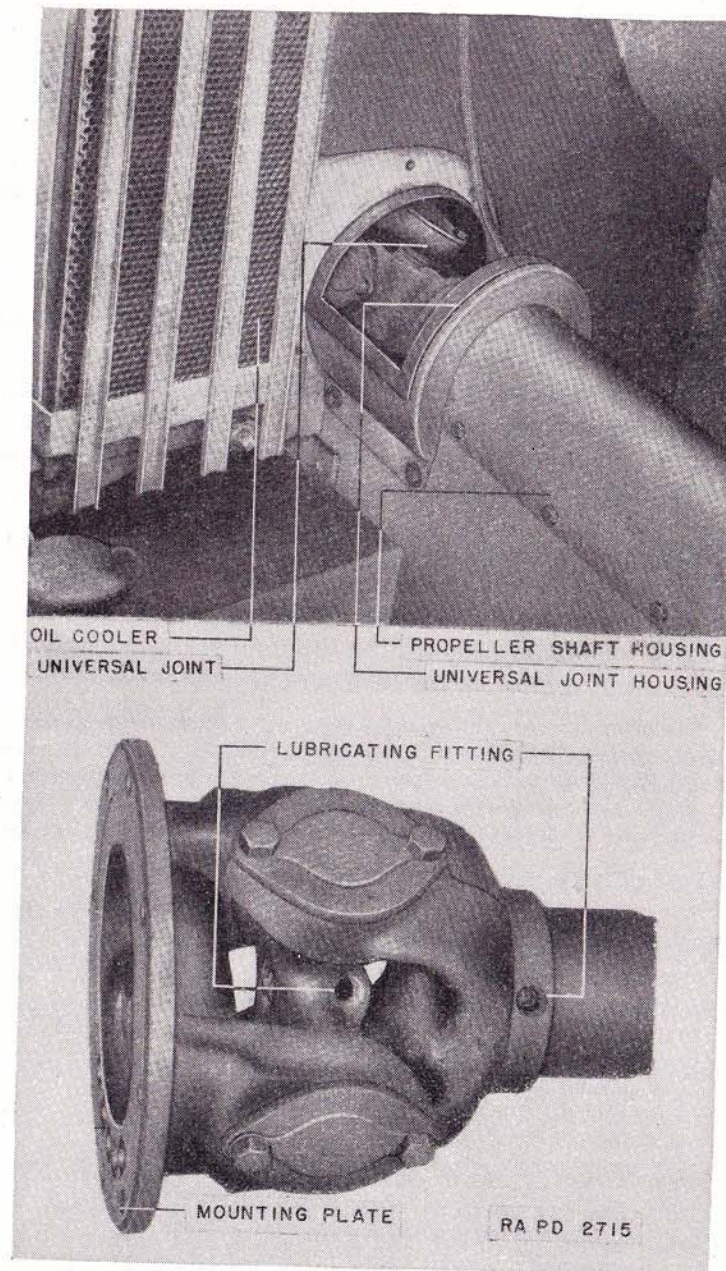

FIGURE 42.—Propeller shaft and universal joint.
**82. General.**—The propeller shaft (fig. 42) transmits power from the clutch to the transmission and the rest of the power train. It is equipped with universal joints at either end to permit operating at an angle with the transmission and clutch. It is inclosed in a housing or "tunnel" in the center of the floor of the crew compartment.